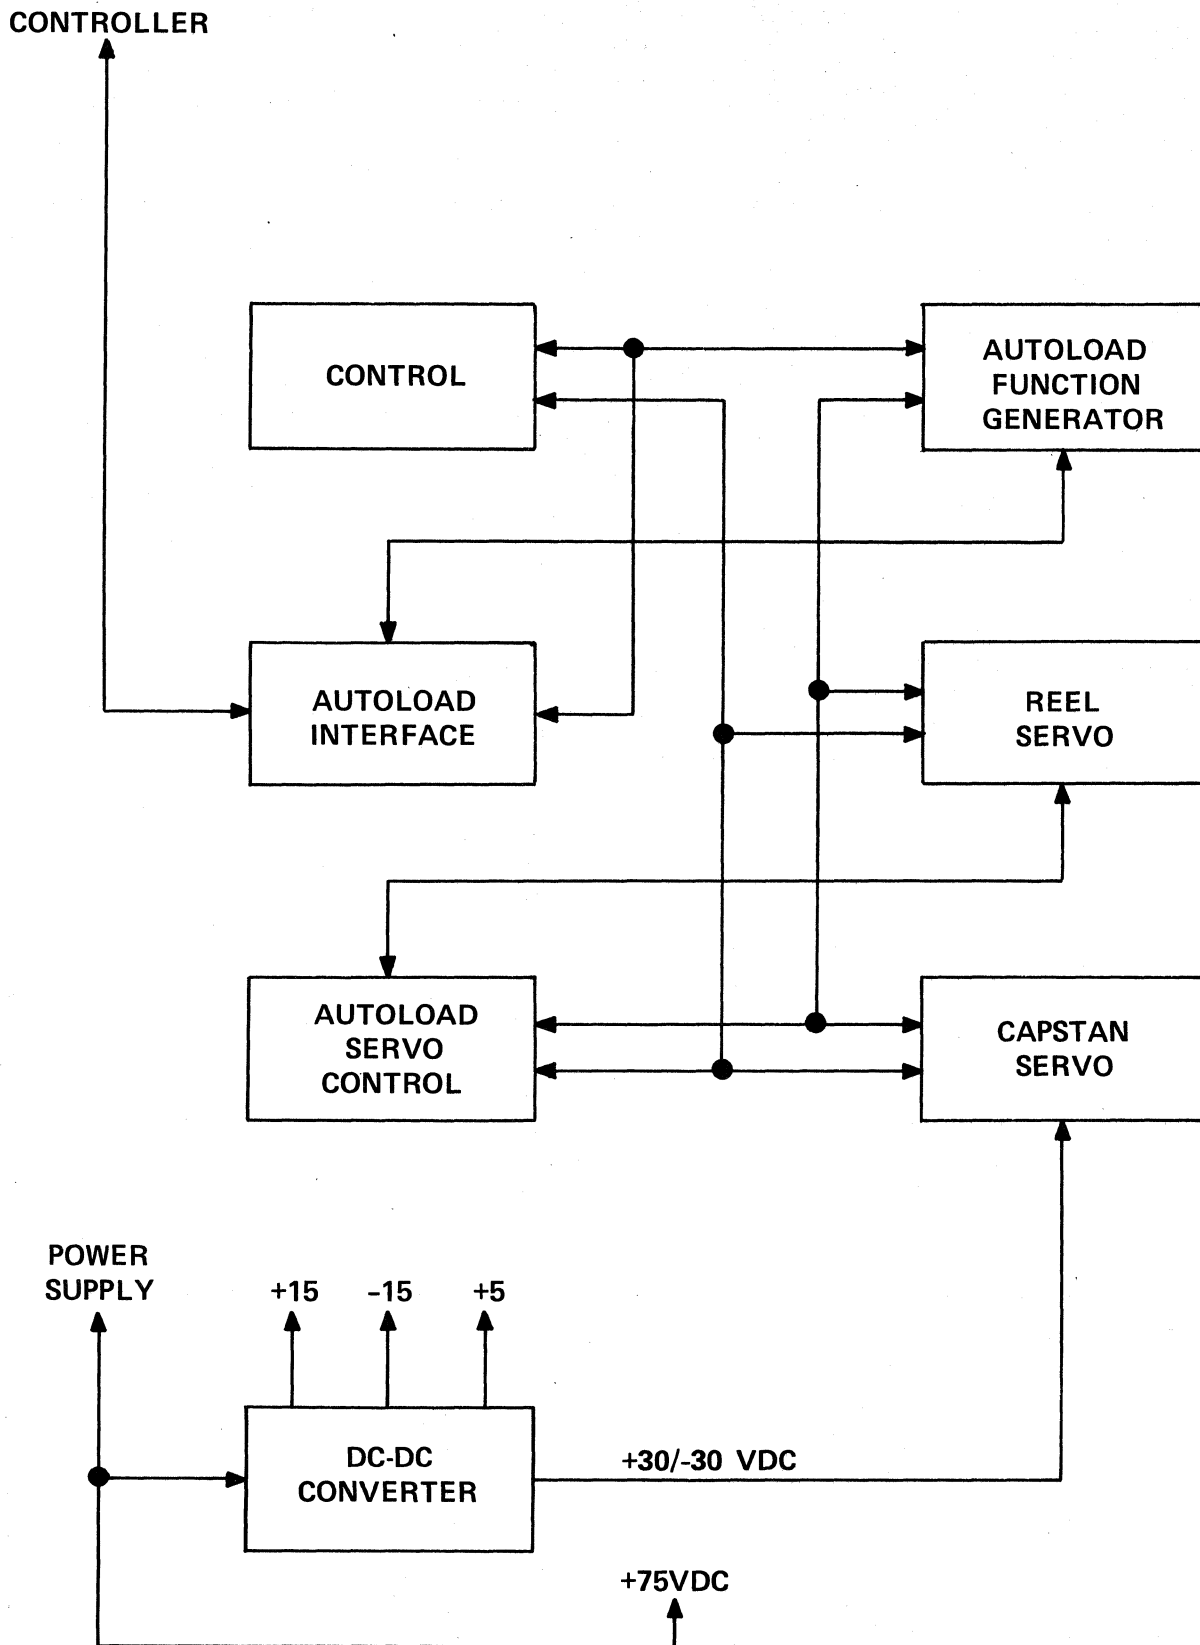

Figure 4-1. MTT Simplified Block Diagram
a. GENERAL. - The MTT consists of six major sections (figure 4-1) as follows: Control Section, Autoload Function Generator, Autoload Interface, Autoload Servo Control, Reel Servo, and Capstan Servo. The MTT also contains a power supply which converts input power to the required operating voltages.